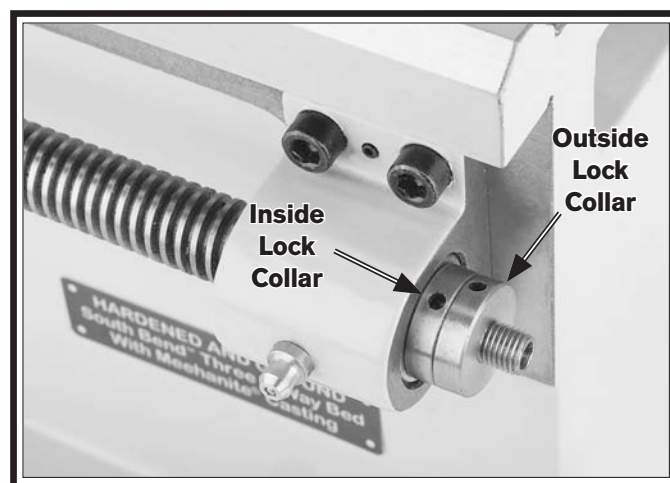

Figure 88. Longitudinal leadscrew lock collars.
2. Insert the hex wrench or similar tool into a hole on the rim of the outside leadscrew lock collar (see **Figure 88**) to loosen it a couple of turns.